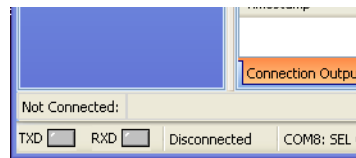

Figure 3.3 Status Bar When Programming Is Completed
Step 4. The data transfer could take a little longer than ten seconds. When it completes, the status bar at the bottom of the Device Manager window will show the connection state as **Disconnected** (see Figure 3.3).
The data transfer could take a little longer than ten seconds. When it completes, the status bar at the bottom of the Device Manager window will show the connection state as **Disconnected** (see Figure 3.3).